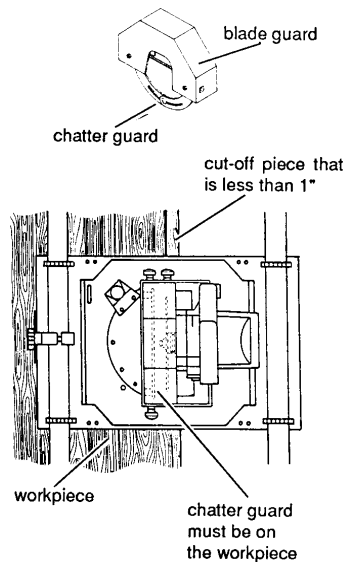

Figure 34: Chatter Preventer (guard) in position for crosscutting
10. When making cuts that are less than 1 inch, the chatter preventer (guard) (located inside the blade guard) must be resting on the work piece, not on the cut-off piece. See Fig. 34 & 35. If it is not positioned this way, it will jam the work piece and prevent the carriage from continuing through the cut. **If the saw jams, turn the saw OFF** and wait for the blade to stop. Then back the saw out of the cut.